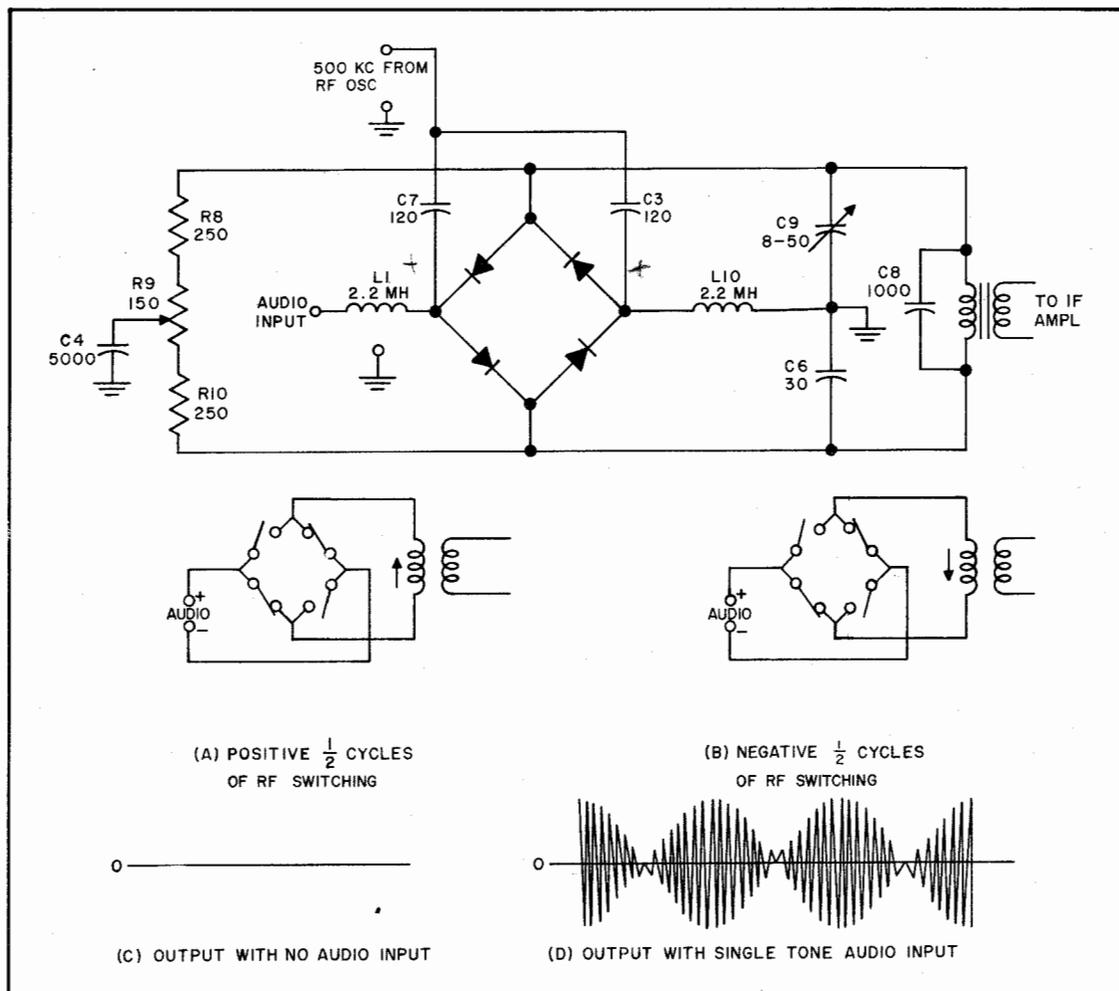

Figure 4-11. Balanced Modulator, Simplified Schematic Diagram
4-89. Balanced modulator A9CR1 (figure 4-11) is a diode chopper that reverses polarity of the audio input signal at a 500-kc rate. The 500-kc voltage switches the diodes on and off so that the audio input follows circuits as shown in (A) and (B), figure 4-11, on successive half cycles. The 500-kc switching voltage is approximately 10 times larger than the audio, so that audio voltage peaks do not switch the diodes.
equal, opposite currents in the winding is zero. The 500-kc carrier component is balanced out of the modulator output. The diodes in the modulator circuit are matched. The forward resistances of the diodes in the two biased-on conditions, (A) and (B), figure 4-11, are equal. Resistor R9 and capacitor C9 are adjustable so that the currents can be balanced even more closely. Thus, the currents flowing through the diodes on successive half cycles are equal. Capacitors C6 and C9 overcome the effects of distributed capacitance in the modulator circuit. The balanced modulator output with a single-tone audio input signal is shown in (D), figure 4-11.